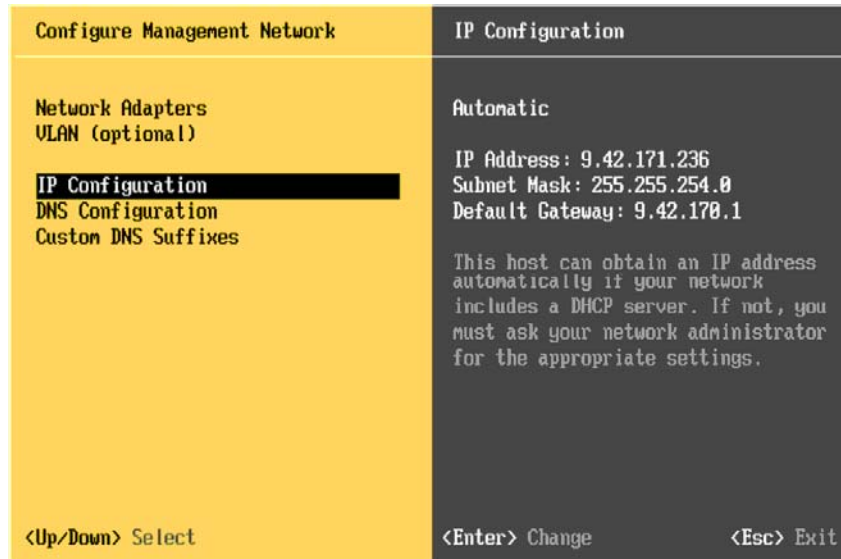

Figure 5-17 Options available under Configure Management Network
5. Under Network Adapters, Figure 5-17, you can select which vmnic to assign to the ESXi host management interface for fault-tolerance and management network traffic load-balancing.